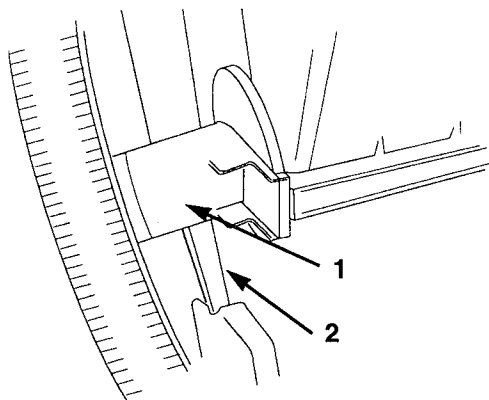

Figure 44
2. Rotate the axle supports so the thin part of its flange fits between the mower handles (Fig. 44).